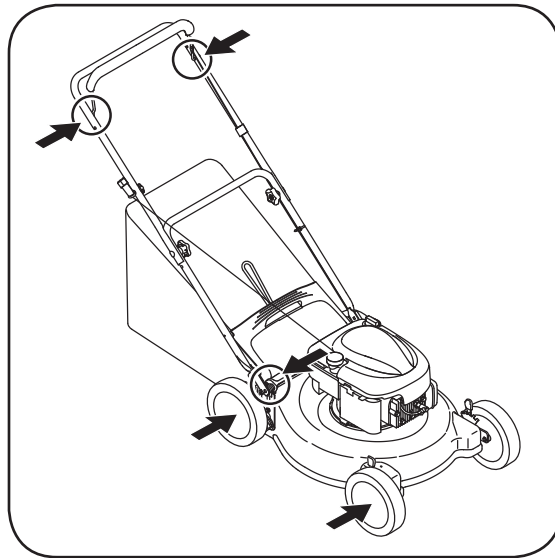

Figure 5-1: Areas to lubricate on the mower.
- Lubricate pivot points on the blade control handle at least once a season with light oil. The blade control must operate freely in both directions, Figure 5-1.
- Lubricate the wheels at least once a season with light oil (or motor oil). If wheels are removed for any reason, lubricate surface of the pivot arm and inner surface of the wheel with light oil, Figure 5-1.
- Lubricate the torsion spring and pivot point on the rear discharge door periodically with light oil to prevent rust, Figure 5-1.